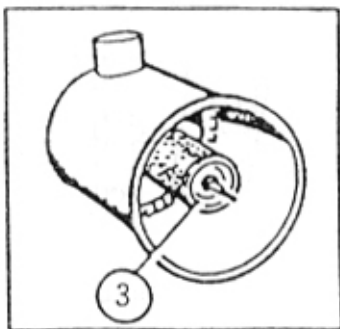

Fig.45
d. Replace safety filter cartridge (Fig 45)